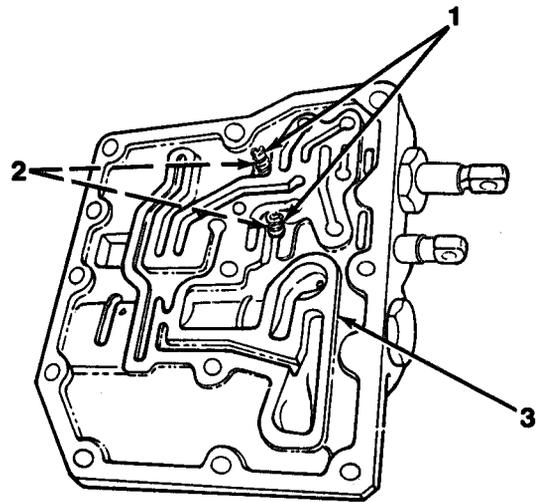

Figure 11-1
1. Remove two detent springs (1) and balls (2) from back side of valve body (3, Figure 11-1).